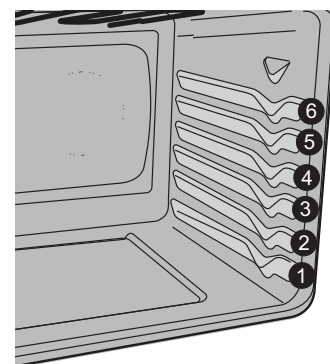

Figure 7: Rack position
- For best results when baking cakes using two oven racks, place racks in positions 1 and 5 (See Figure 7).